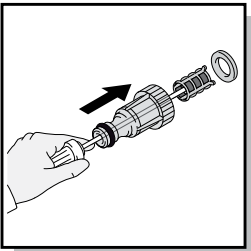

Fig. 19
- The screen inside the clear adapter should be cleaned periodically. Insert a pen or pencil in small hole at the end of the adapter. The screen filter will slide out (Fig. 19). Rinse it with clean water, and then place it back in the adapter.